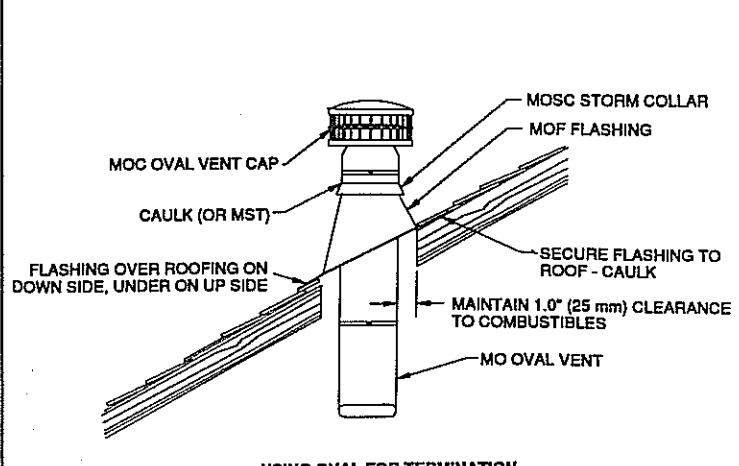

FIGURE 6
4. If your installation terminates as oval, Oval Flashing (MOF) and Oval Storm Collar (MOSC) are shown in Figure 6. An Oval Vent Cap (MOC) completes the installation.